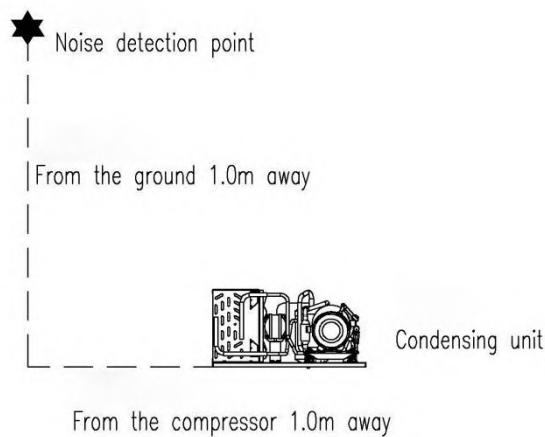

Figure 1
①	STANDARD TEST CONDITIONS		32℃		0℃		18℃		-7℃		220V~50HZ
②	OVERLOAD RUNNING		43℃		0℃		18℃		0℃		198V~50HZ
- ① When the unit is used in freezing condition, it is recommended to add refrigeration solenoid valve and use negative pressure shutdown scheme; When used in refrigeration conditions, it is recommended to add refrigeration solenoid valve;
- ② Refrigerating capacity test condition;
- ③ When the unit filling refrigerant exceeds the maximum filling amount, the quality of filling chilled oil should be confirmed with our company.
- ④ The biggest running current test condition;
- ⑤ When the ambient temperature is lower than 10℃, the condensation temperature control needs to be added;
- ⑥ The position of noise detection point is shown in Figure 1.